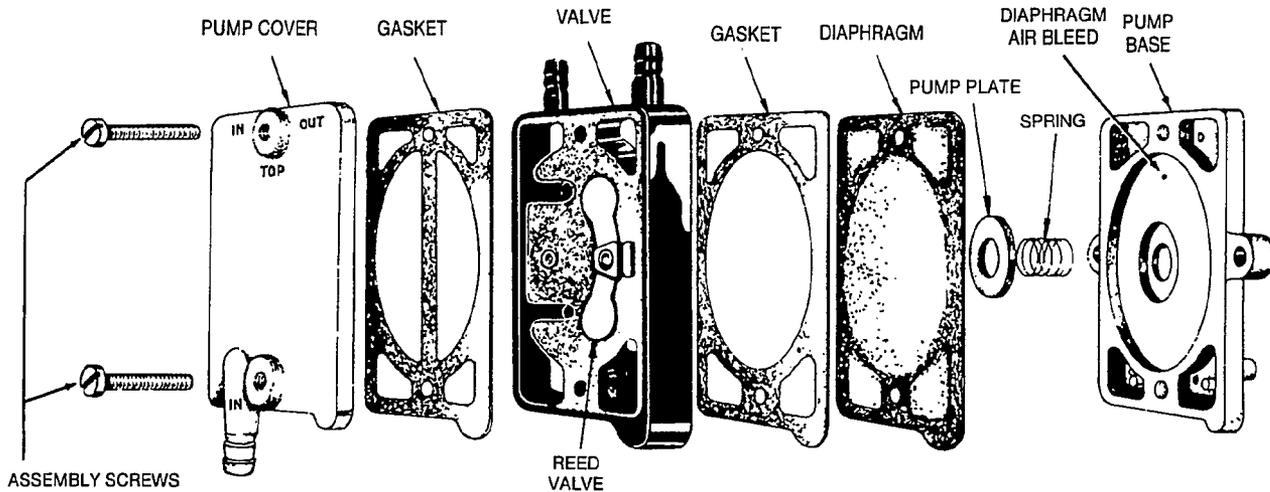

FIGURE 5. EXPLODED VIEW OF FACET FUEL PUMP
3. Holding the pump carefully, remove the assembly screws (Figure 5.)